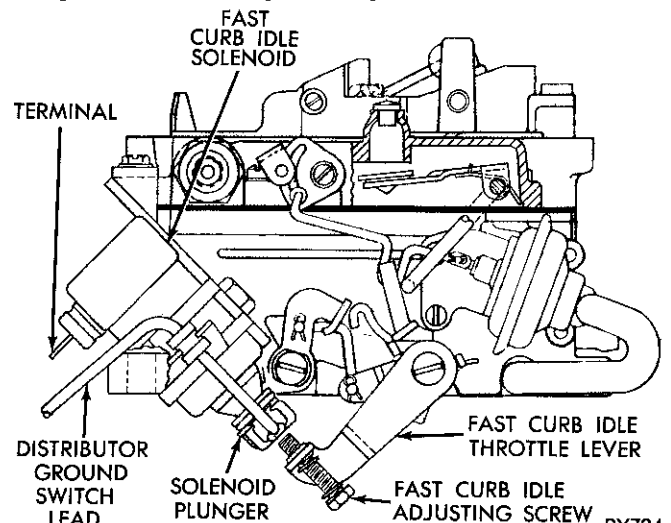

Fig. 21—Idle Speed Solenoid Adjustment
- (1) Warm up engine to normal operating temperature, then attach a tachometer.
- (2) With engine running, turn idle speed solenoid adjusting screw **in** or **out** to obtain 900 r.p.m. for manual transmission equipped vehicles and 800 r.p.m. for automatic transmission equipped vehicles (Fig. 21).
- (3) After specified r.p.m. has been obtained and with engine still running (to energize solenoid), adjust curb idle speed screw until end of screw **just touches** stop on carburetor throttle body. Now, back off 1 full turn to obtain slow curb idle speed setting. (Approximately 650 to 700 r.p.m.)